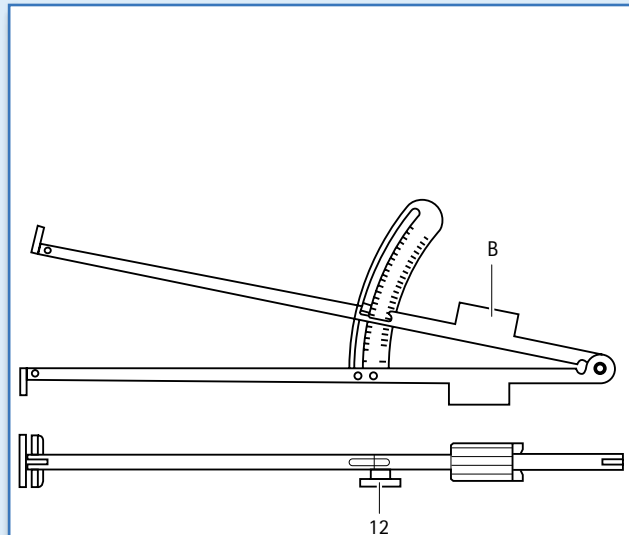

Fig. 23
- Turn the knurled screw 12 of the caliper B counterclockwise until it is fully disengaged. (Fig. 23)
- Insert knurled screw 12 in the threaded hole and turn it clockwise until tight and there is sufficient resistance when the arms are opened. (See Fig 23 on page 18)